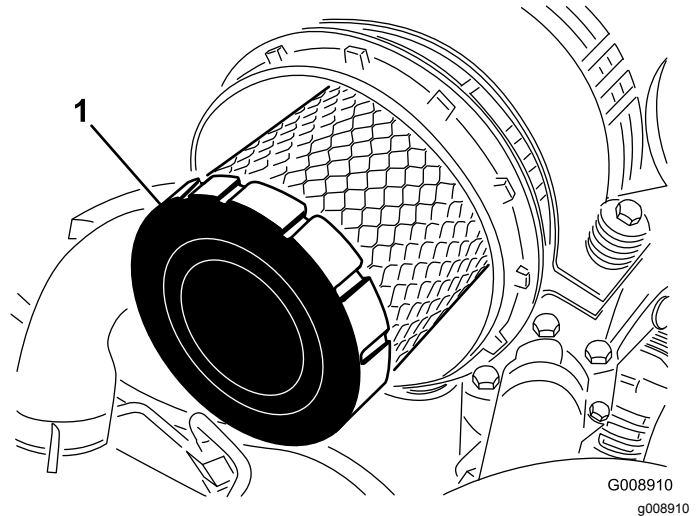

Figure 88
4. Remove the primary filter (Figure 88).